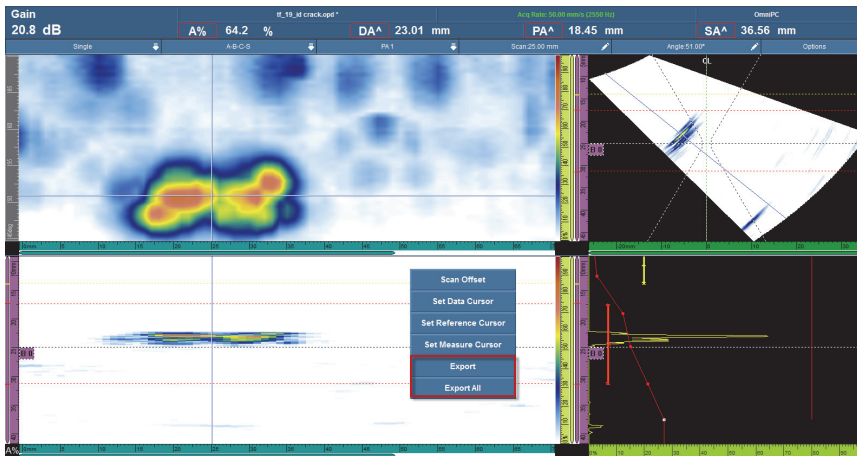

Figure 6-5 The Export function
1. In OmniPC, right-click on the B-scan to open the shortcut menu. Depending on the type of scan, **Export** or both **Export** and **Export All** appear as available options (see Figure 6-5 on page 160).